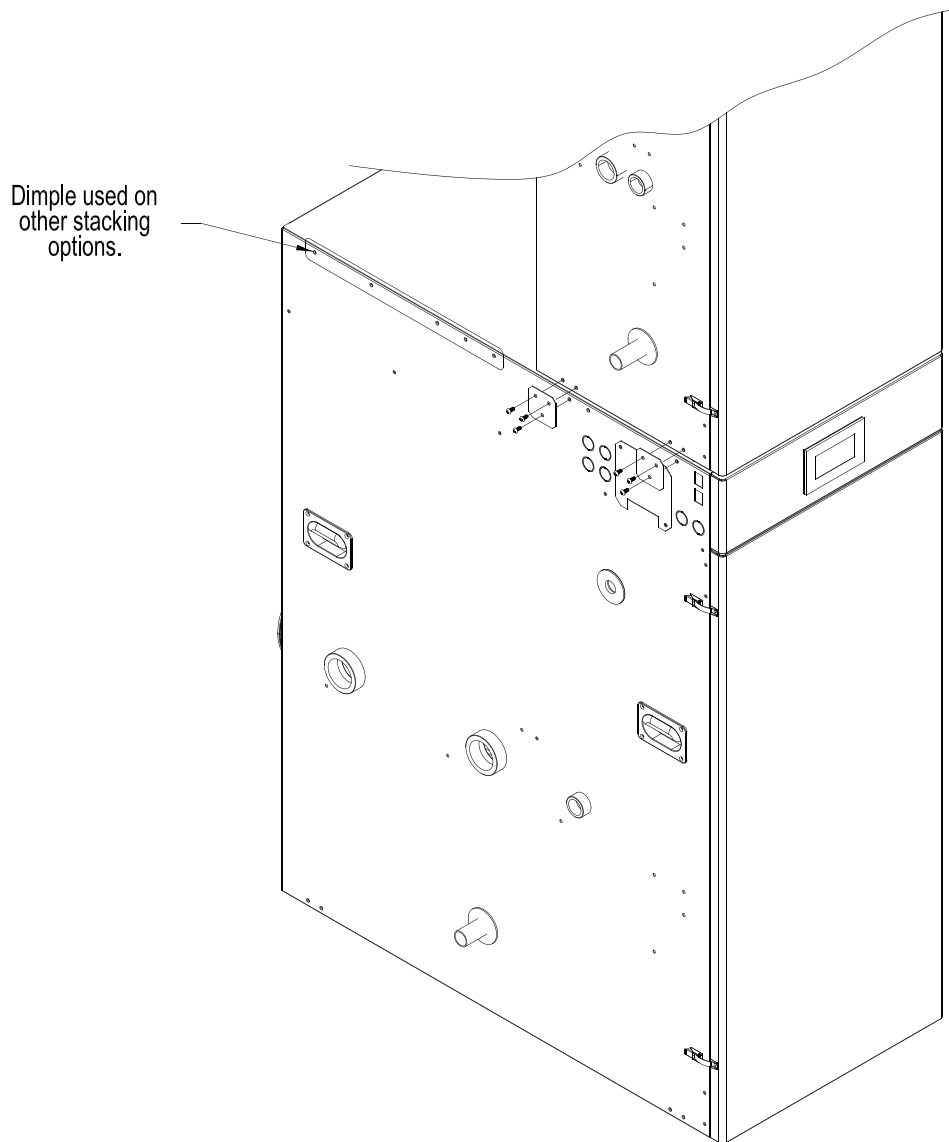

Figure 3: Stacking Boiler Attachment Bracket Placement
- b. Each Phantom boiler is factory packaged with two (2) Stacking Boiler Attachment Brackets (P/N 101679-01) and the bracket mounting hardware [six (6) self-drilling hex washer head plated #8 x 1/2” long screws]. Locate and remove the brackets and the hardware. The Stacking Boiler Attachments Bracket has three 7/32” diameter holes punched in a triangular pattern. See Figure 3 “Stacking Boiler Attachment Bracket Placement”.